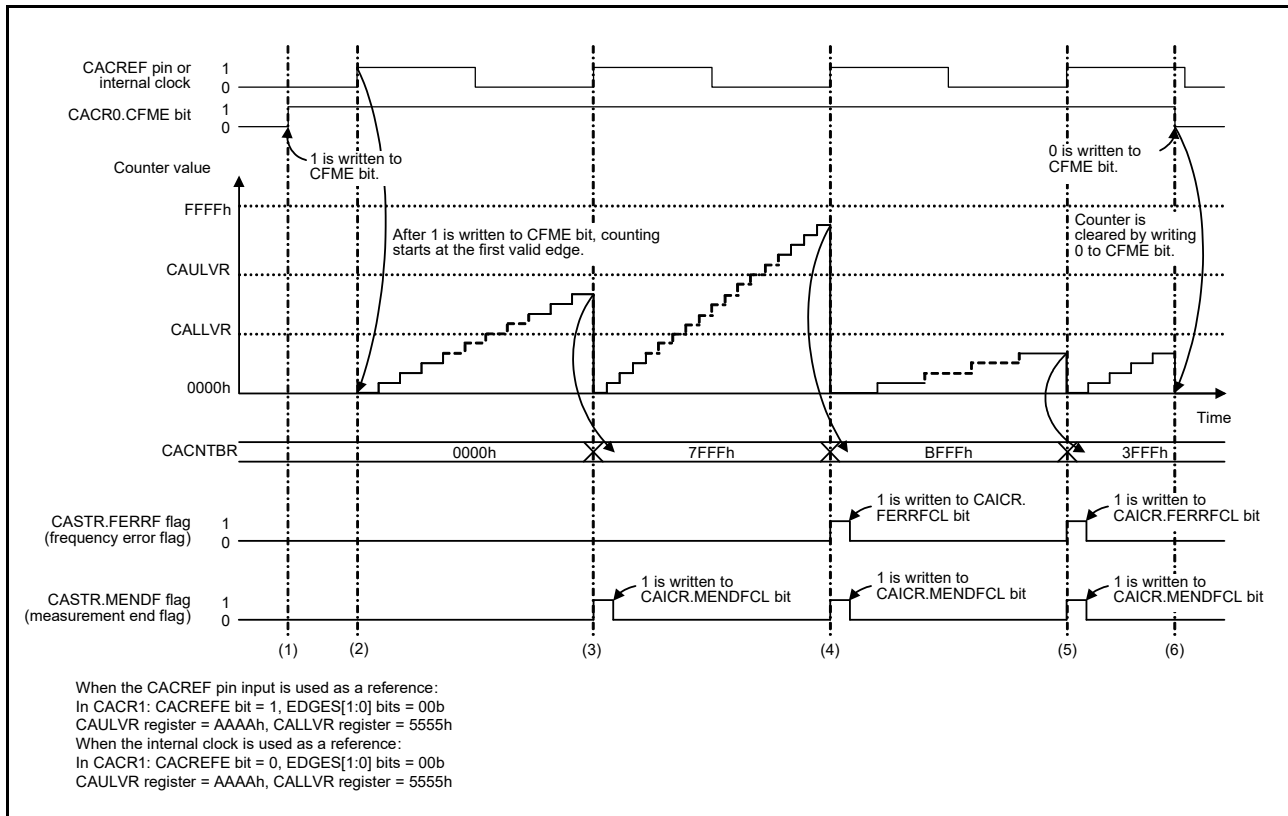

Figure 10.2 Operating Example of Clock Frequency Accuracy Measurement Circuit
The clock frequency accuracy measurement circuit measures the clock frequency using the CACREF pin input or the internal clock as a reference. Figure 10.2 shows an operating example of the clock frequency accuracy measurement circuit.
- (1) When the CACREF pin input is used as a reference (the CACR1.CACREFE bit = 1), clock frequency measurement is enabled by writing 1 to the CACR0.CFME bit while the CACR2.RPS bit is 0 and the CACR1.CACREFE bit is 1. On the other hand, when the internal clock is used as a reference (the CACR1.CACREFE bit = 0), clock frequency measurement is enabled by writing 1 to the CACR0.CFME bit while the CACR2.RPS bit is 1.
- (2) When the CACREF pin input is used as a reference, the timer starts up-counting if the valid edge selected by the CACR1.EDGES[1:0] bits is input from the CACREF pin after 1 is written to the CFME bit. The valid edge is a rising edge (the CACR1.EDGES[1:0] bits = 00b) in Figure 10.2.
When the internal clock is used as a reference, the timer starts up-counting if the valid edge selected by the CACR1.EDGES[1:0] bits is input based on the clock source selected by the CACR2.RSCS[2:0] bits after 1 is written to the CFME bit. The valid edge is a rising edge (the CACR1.EDGES[1:0] bits = 00b) in Figure 10.2.